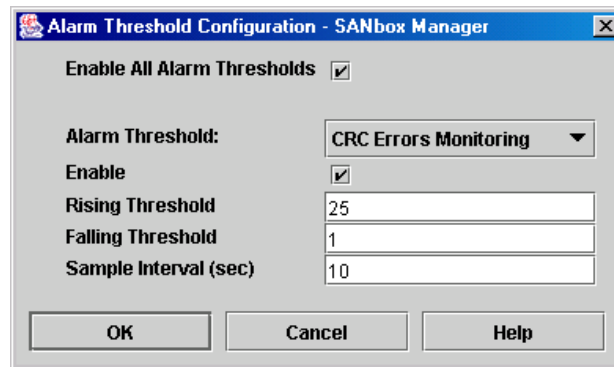

Figure 4-6. Alarm Threshold Configuration Dialog
2. The Alarm Threshold Configuration dialog shown in Figure 4-6 prompts you to enable or disable all alarms, select an event, set thresholds, set a sampling interval and enable or disable an individual alarm.